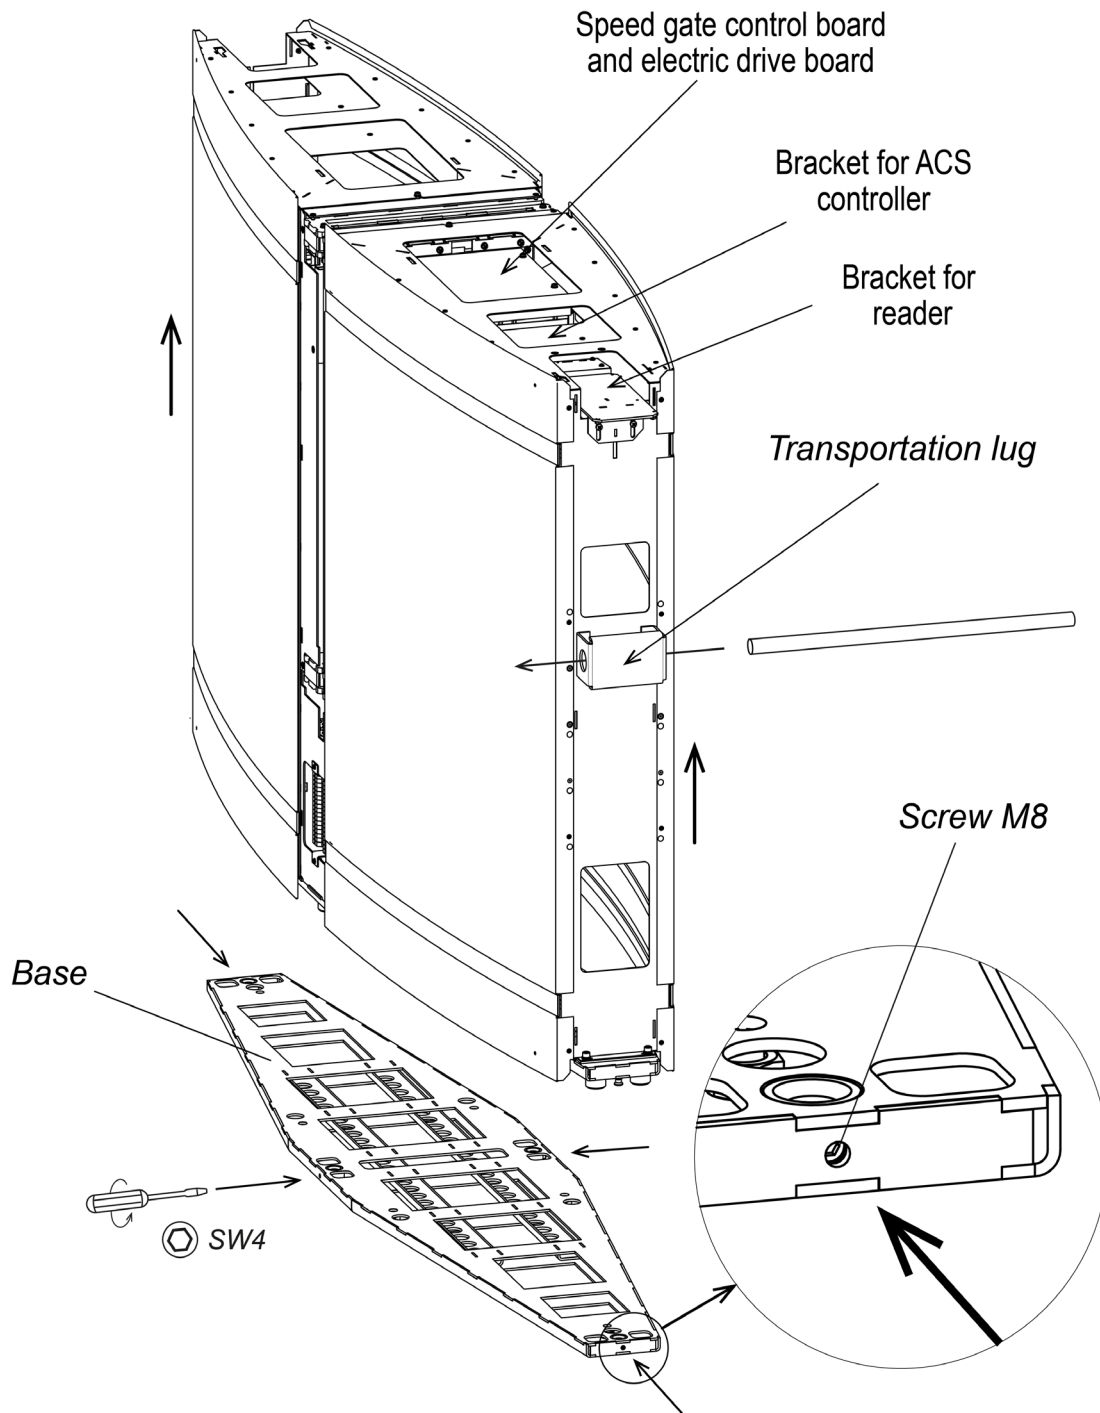

Figure 20. Removing the section from the housing
10. Install the *Master* section on the base by pulling its connection cables inside. Secure the section to the base with the four M8 set screws by using the SW4 Allen wrench (see Fig. 20). If necessary, it is possible to disconnect and extend one or two removable parts of the housing along the X-axis for more convenient cabling inside the housing section (see section.8.7.3, Fig. 21).
18. If necessary, install the access card reader and ACS controller – card readers are mounted on special brackets located inside of the sections under the top indication blocks or directly on the bottom of the indication blocks (**MR07 OEM**); the ACS controller is mounted in the opening of the section housing, under the speed gate top cover by means of self-adhesive clips from the delivery set (see Fig. 20).
1. Turn the four M8 screws all the way out with the SW4 Allen wrench (see Fig. 20).